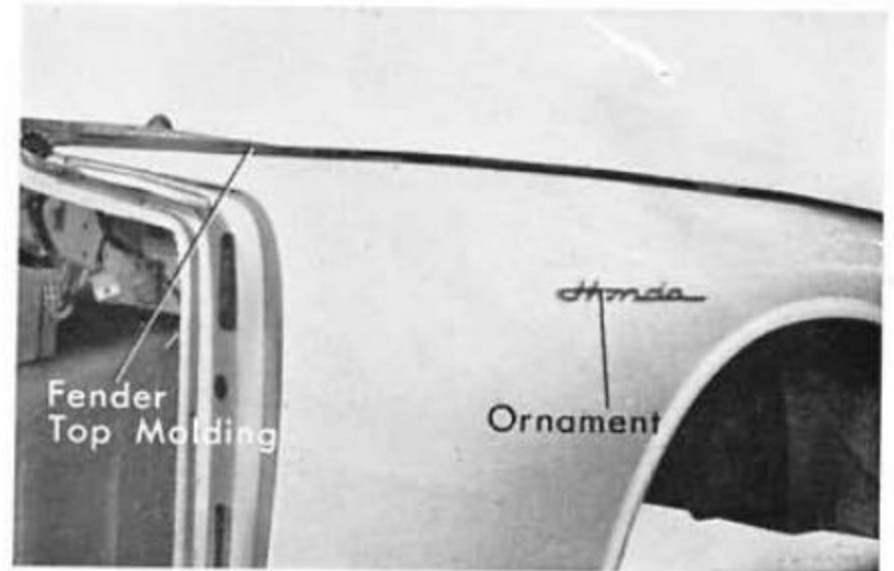

Fig. 17F-26
53. Remove the screws from the rear end of the fender top molding and detach the molding (Fig. 17F-26).